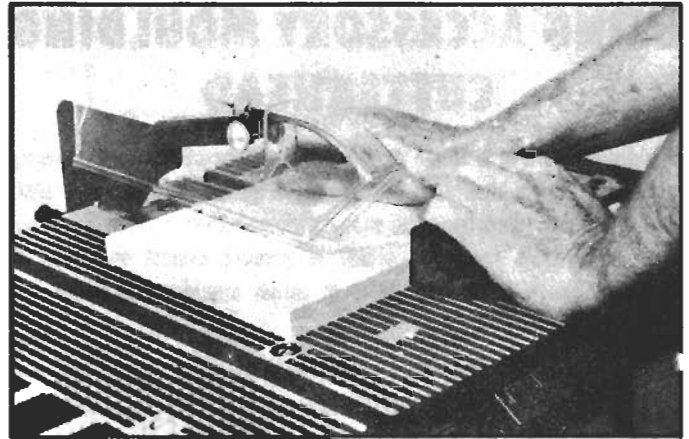
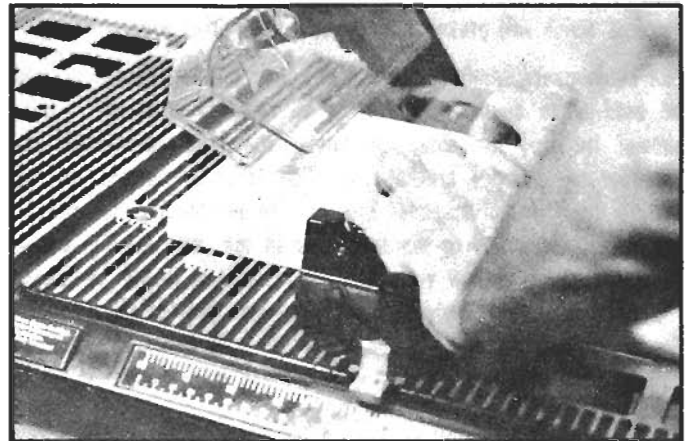

Fig. 39
Fig. 40
1. Set the saw blade at 0 degrees (perpendicular to table) and blade height at approximately 1" above the table surface. Be sure the red lock knob is locked before operating the saw. Set your miter gage to 90° and place in miter gage slot on right hand side of the saw blade. Cross cut approximately 2" off the end of a work piece as shown in Fig. 39. Now make the following checks on the work piece with a combination square:
Cross cutting requires the use of the miter gage to position and guide the work. Place the work against the miter gage and advance both the gage and work toward the saw blade, as shown in Fig. 39. The miter gage may be used in either table slot. When bevel cutting (blade tilted), use the table groove that does not cause interference of your hand or miter gage with the saw blade guard, as shown in Fig. 40.